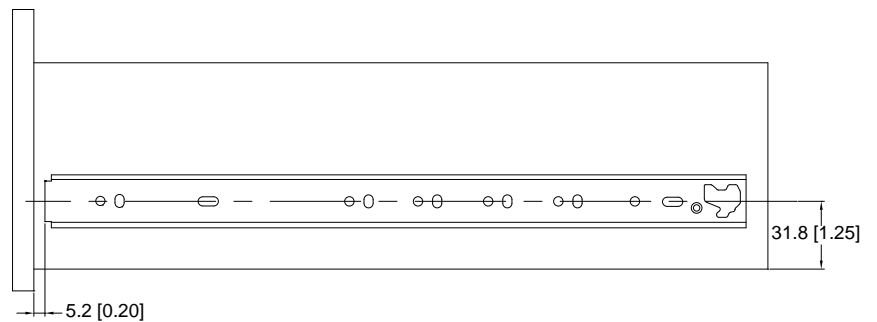

Fig.1
2. Install the drawer members as indicated in Fig.1. Make sure both drawer members are vertically and horizontally parallel.